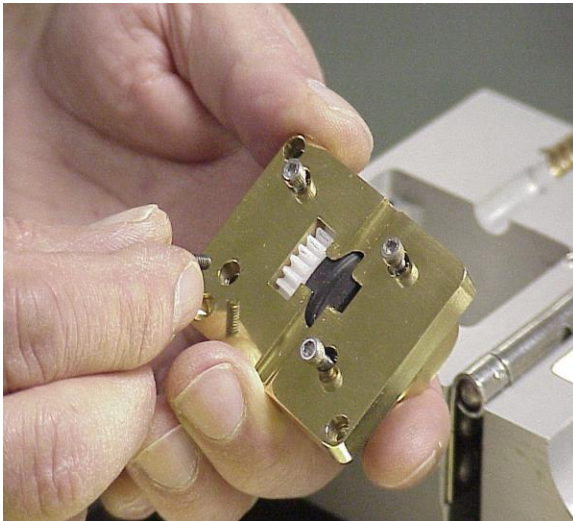

Figure 46
13.5.2.12 Replace four (4) short machine screws to secure the Bearing Hanger Assembly to Upper Brass Plate and lightly tighten. When properly assembled, the heads of the four (4) short machine screws will be flush with the Upper Brass Plate. **See Fig. 46.**